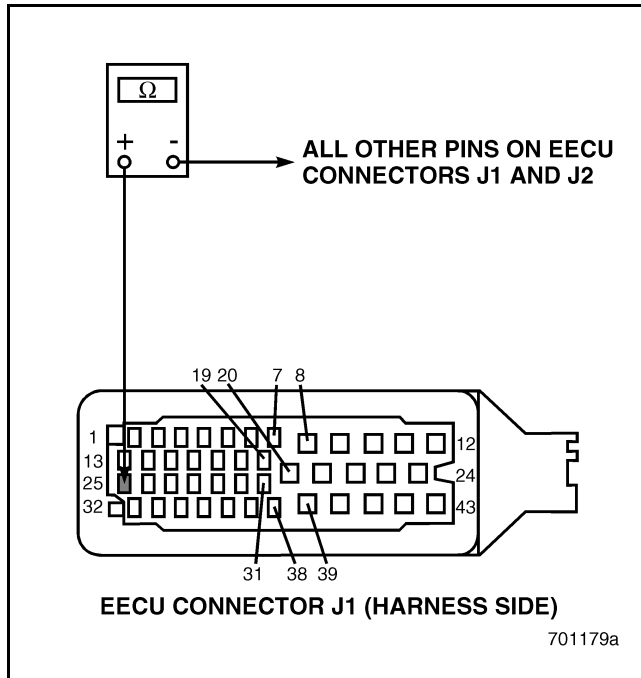

Figure 21
4. Check for continuity between EECU harness connector J1 pin 25 (ground line) and all other pins in EECU harness connectors J1 and J2 (see Figure 21).